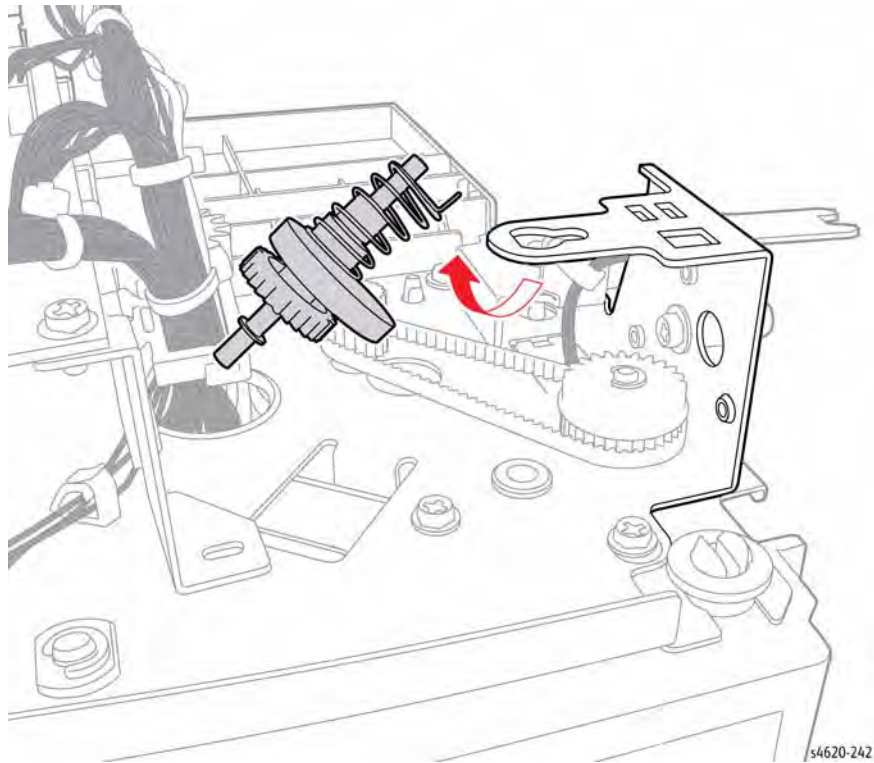

Figure 2 Remove the shaft from the bracket
6. Move the shaft outwards to release the shaft from the Finisher, then tilt the shaft up to remove, Figure 2.